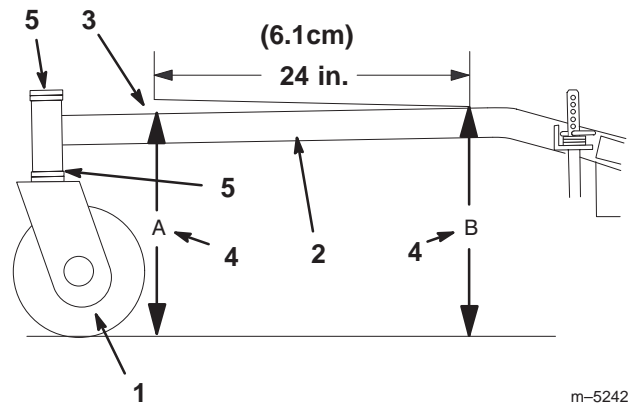

Figure 50
The carrier frame must have a pitch of a 1/4 in. (6 mm) over the length of 24 inches on the carrier frame (Fig. 50).
1. Measure out 24 inches (6.1 cm) on the carrier frame (Fig. 50).
2. Measure carrier frame height at location **A** (Fig. 50).
3. Measure carrier frame height at location **B** (Fig. 50).
4. The height at location **A** must be a 1/4–3/8 in. lower than location **B** (Fig. 50).
5. If the carrier frame is not correct, move caster spacers to make it a 1/4–3/8 in. (6–10 mm) pitch (Fig. 50). Move spacers from top or bottom to make the correct pitch.